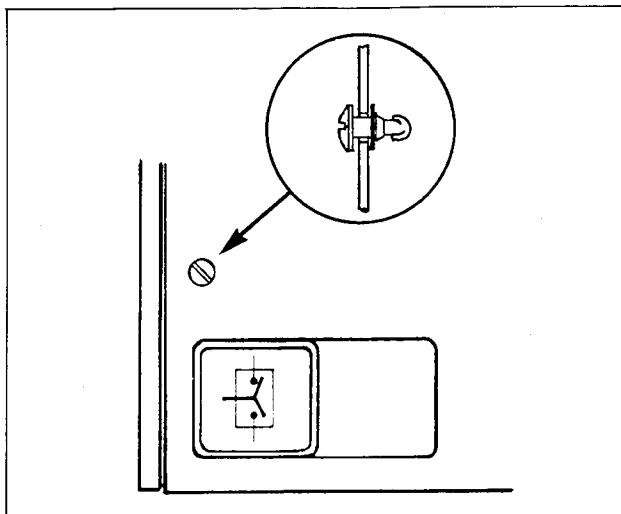

Figure 11. Cover Removal
3. Remove the cover from the Control Panel as follows: Locate the two fasteners on the face of the cover. Use a screwdriver to turn the fasteners 1/4 turn until cover is released (Figure 11).